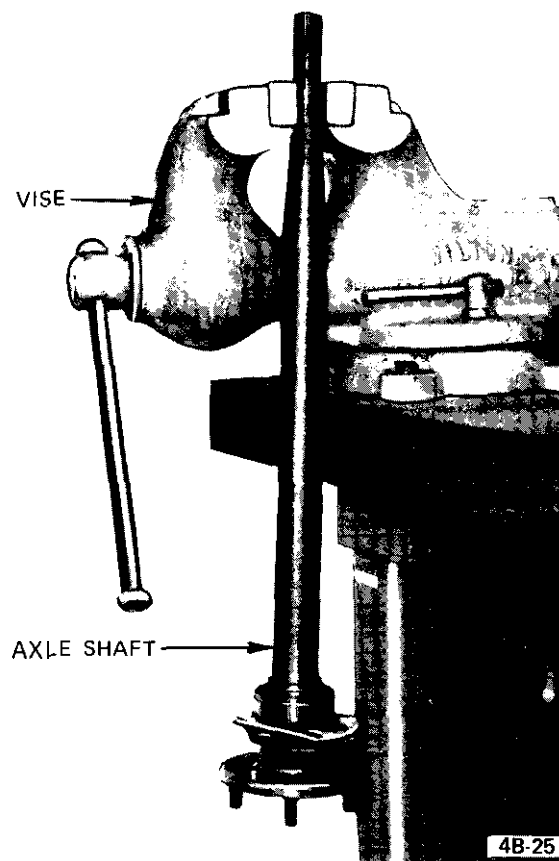

Figure 4B-25 Axle Shaft Installed in Vise
a. Install axle shaft into a vise and position differential case onto axle shaft. See Figure 4B-25.
b. Insert Special Tool J-24093 into opposite side gear, attach a torque wrench, and check torque to rotate gear. See Figure 4B-26. Permissible torque to turn gears is $14 \frac{1}{2}$ to $17 \frac{1}{2}$ footpounds.